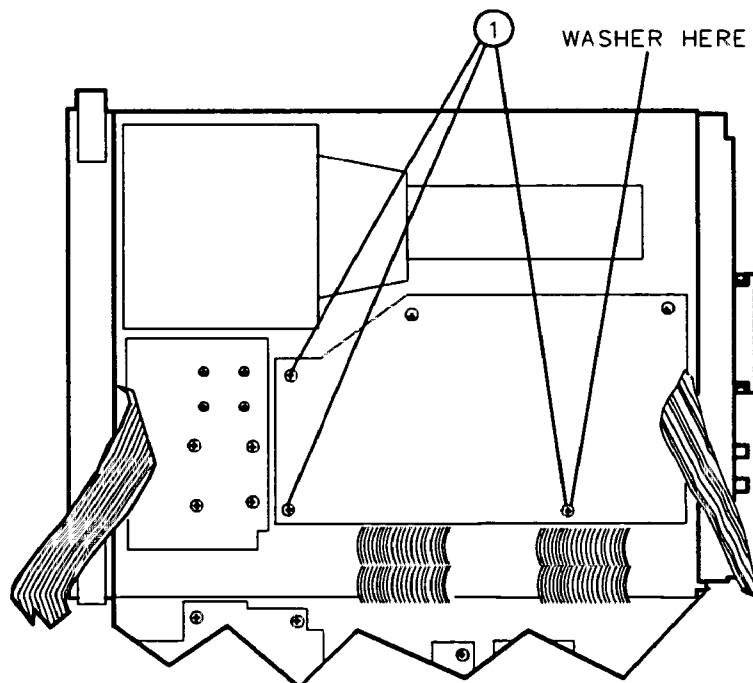

Figure 3-26. A6 Power-Supply Cover
16. Secure the power-supply cover shield to the power supply, using three flathead screws (1). On some instruments a flat washer is used with one of the screws. If one of the screws removed had a flat washer with it, then replace it as shown in Figure 3-26. One end of the cover fits into a slot provided in the rear frame assembly.
11. Secure the power-supply cover shield to the power supply, using three flathead screws. On some instruments a flat washer is used with one of the screws. If one of the screws removed had a flat washer with it, then replace it as shown in Figure 3-26. One end of the cover fits into a slot provided in the rear-frame assembly.
9. Secure the power-supply cover shield to the power supply using three flathead screws. On some instruments a flat washer is used with one of the screws. If one of the screws removed had a flat washer with it, then replace it as shown in Figure 3-26. One end of the cover fits into a slot provided in the rear frame assembly.